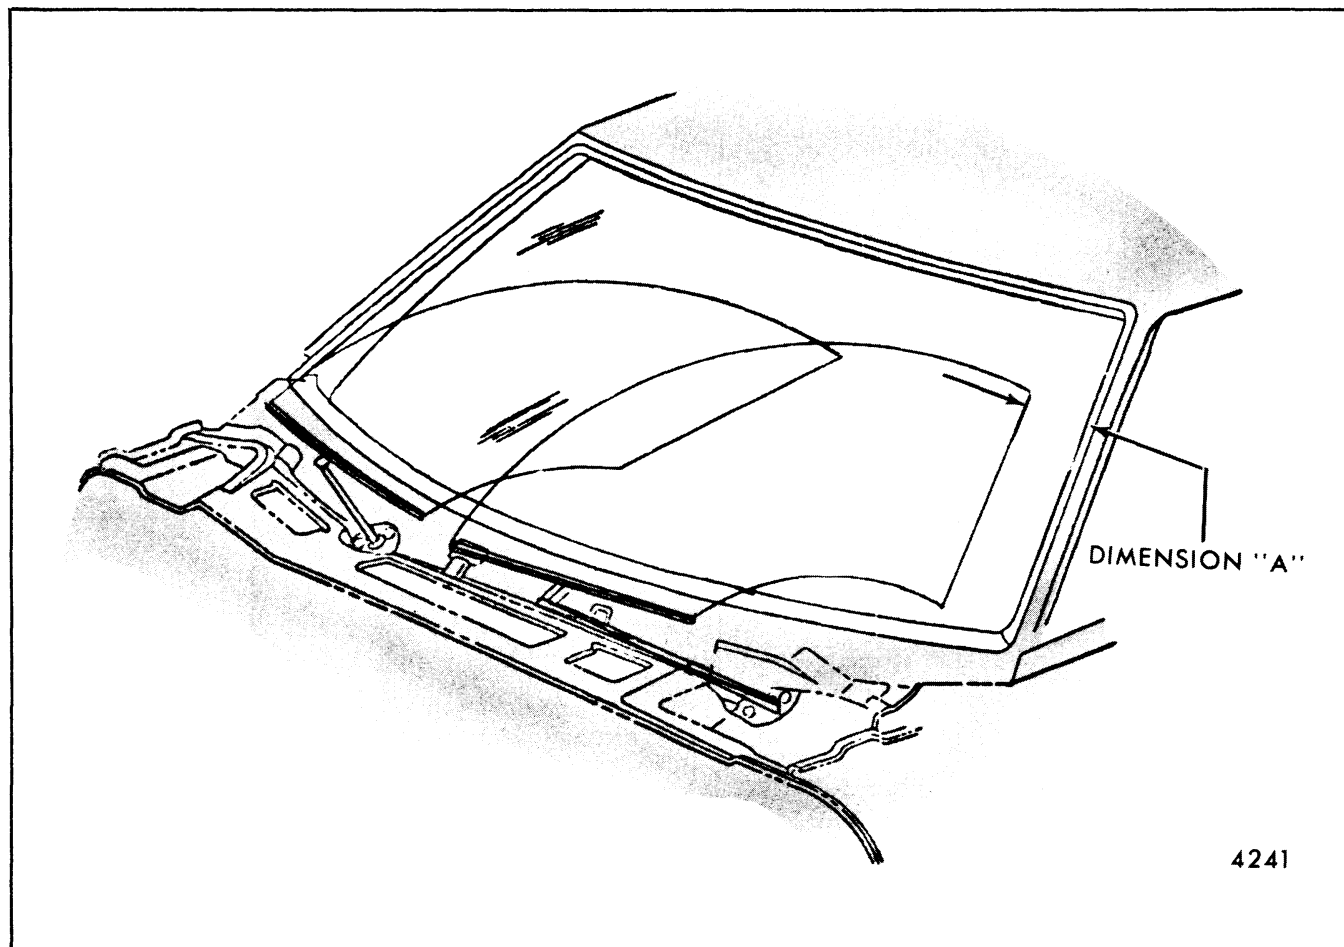

Fig. 2-37-Wipe Pattern
8. Check wipe pattern (Fig. 2-37) and park position. Dimension "A" shown in Figure 2-37 for various body styles is as follows: